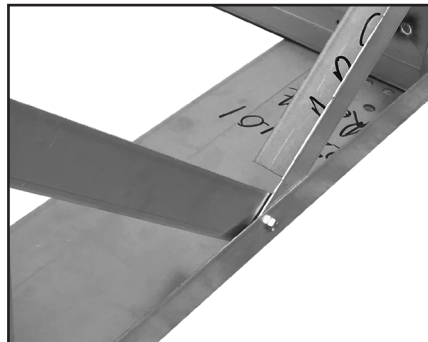

Figure 3
3. Fasten the braces, starting in the middle of each side, loosely thread each bolt and nut, as shown in Figure 3.